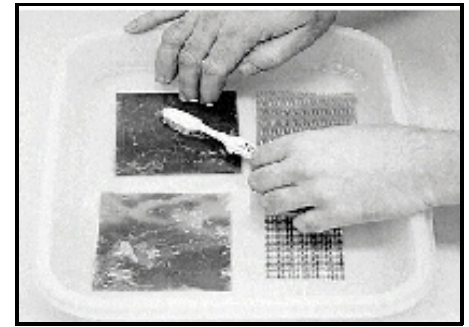

Figure 3
4. Place mica sheet totally flat on bottom of tray, and with a toothbrush, water, and dish soap gently scrub both sides of mica to remove all oxidized material from surface (SEE FIG. 3). Repeat procedure on stainless steel screen then rinse all parts in clean water.